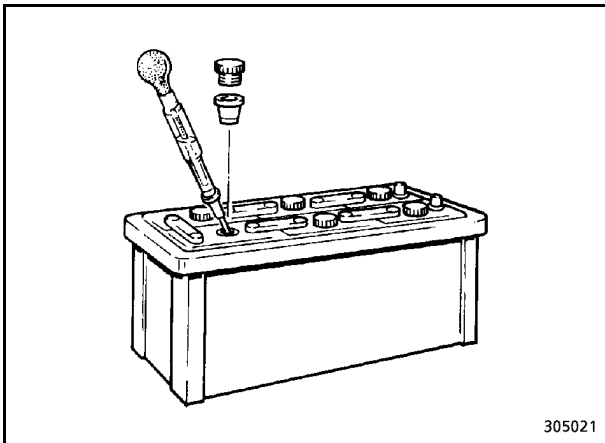

Fig. 3-47:
- Unscrew caps (Fig. 3-47:).
- Unscrew caps of the battery (Fig. 3-47:).
- Measure the acid density of the battery using a commercial acid tester (Fig. 3-47:). The acid density measured is in direct correlation with the battery charge.